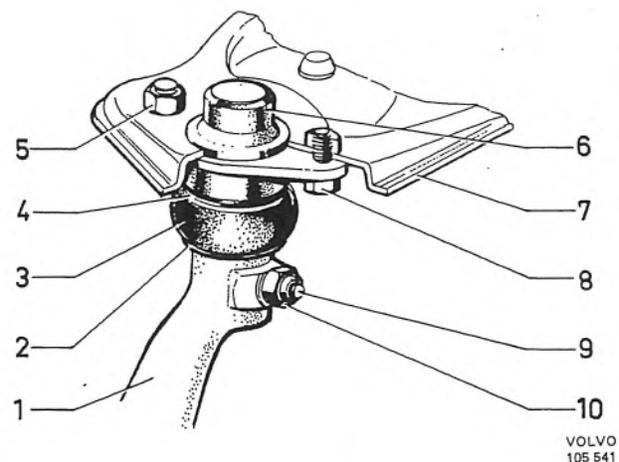

Fig. 6-24. Upper ball joint attachment
3. Unscrew the nuts (5, Fig. 6-24) and remove the bolts (8). Lift off the upper control arm (7).
4. Unscrew the nut (10) and remove the bolt (9). Remove the upper ball joint (6) together with sealing washer and rubber cover from the steering knuckle.
1. Check to make sure that the rubber seal is not damaged and is filled with grease. If necessary, top up with universal grease. Make sure that the sleeve and circlips are properly located, see Fig. 6-24.
4. Remove the nuts (5, Fig. 6-24) and the attaching bolts (8) for the upper ball joint and lift off the upper control arm.